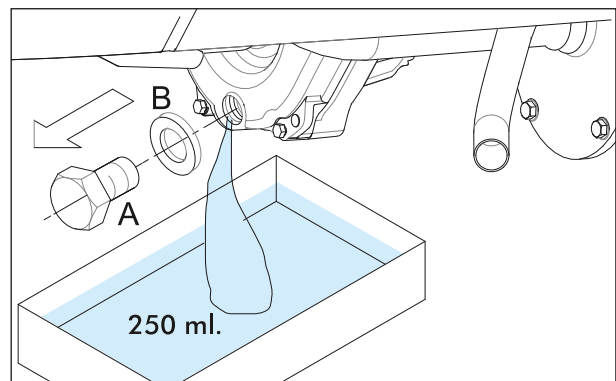

Fig. 2.16
- Loosen and remove the Plug TDC oil drain and filling bolt (A) along with sealing washer Oil drain & filling bolt (B) at the bottom of cover differential.(Fig. 2.16)
- Refit the the Plug TDC oil drain and filling bolt (A) along with sealing washer Oil drain & filling bolt (B) at the bottom of cover differential. (Fig. 2.16)